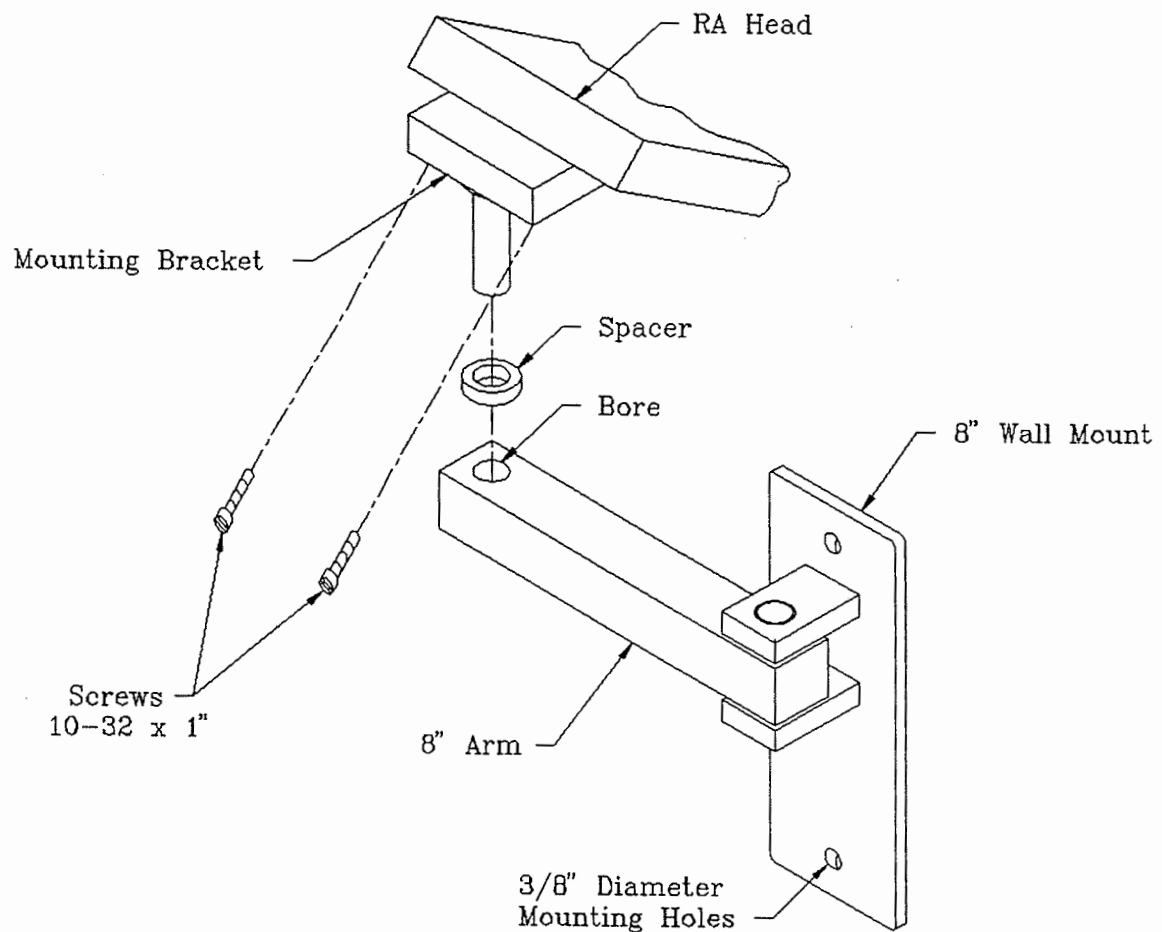

Figure 3
For Top Mounting Wall Mounted Units (see fig 3)
2. Slide the stud on the mounting bracket (attached to analgesia head) in the bore located in the end of the 8" arm. (See fig 3).